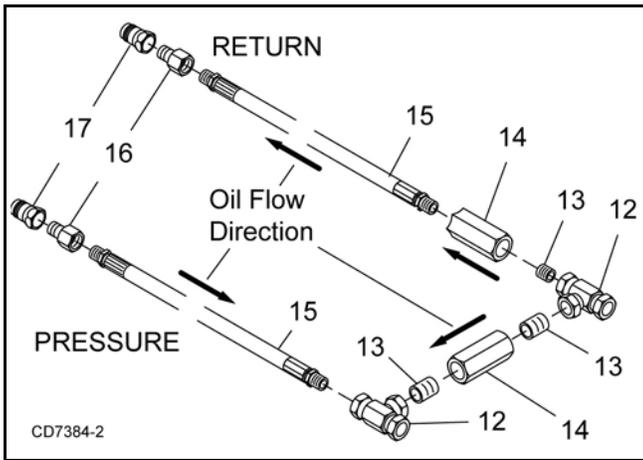
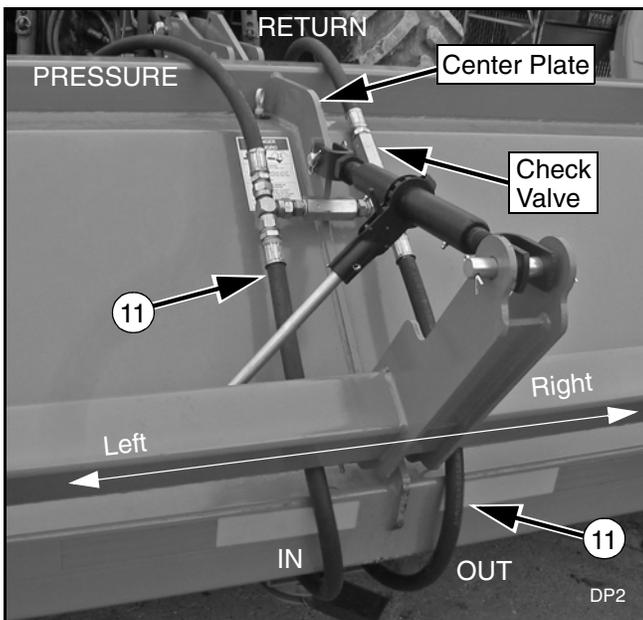

Figure 60. Hose Assembly
Figure 61. Hose Routing
1. Attach male quick coupler (17) and adapter (16) to the end of hose (15). Attach tee (12) to the opposite end of hose.
2. Attach male quick coupler (17) and adapter (16) to the end of second hose (15). Attach check valve (14), nipple (13) and tee (12) to the opposite end of hose.
NOTE: Make sure flow indicator arrow on the side of the check valve (14) is pointing in the correct direction. See Figure 60
3. Install check valve (14) and two nipples (13) between the two tees (12).
4. Place hose assembly around center plate of shredder and drape quick couplers over the front of the shredder. See Figure 60 and Figure 61.